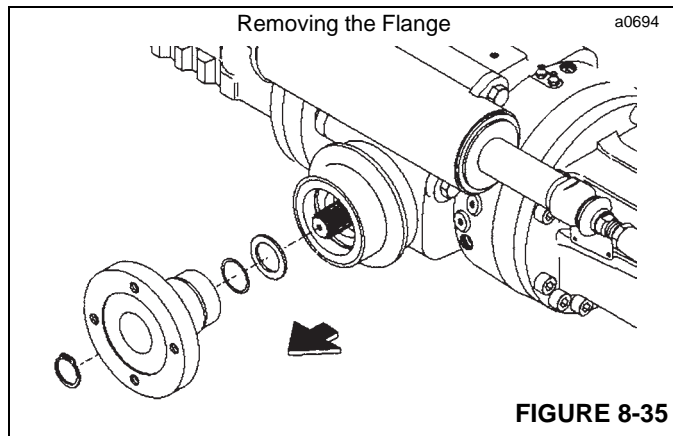

FIGURE 8-35
1. Remove the retaining ring (Figure 8-35).